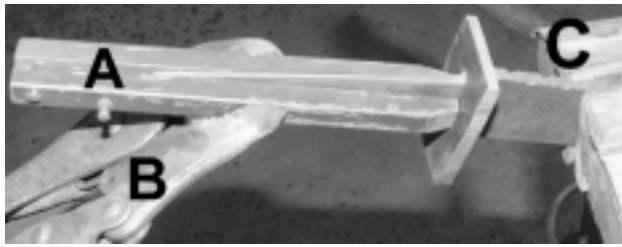

Fig.5: Holding guard in place
The guard is slipped on the tang and held in place (see Figure 5) with a combination of steel fingers (A) and a set of vise-grips (B). I have found that a machinist's vise with oak jaws (C) is a really convenient thing to have around since it holds blades securely, doesn't mar the steel and minimizes the lac-erations on the bladesmith's paws. The next step explains